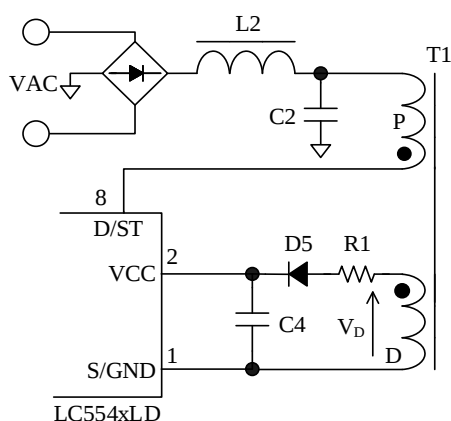

Figure 8-1. VCC Pin Peripheral Circuit
Figure 8-1 shows the VCC pin peripheral circuit. The IC has the startup circuit connected to the D/ST pin. When the D/ST pin voltage reaches the Startup Circuit Operation Voltage, $V_{STARTUP} = 21\text{ V}$, the startup circuit starts to operate. During the startup process, the constant current, $I_{CC(STARTUP)} = -4.0\text{ mA}$, charges C4 connected to the VCC pin. When the VCC pin voltage increases to $V_{CC(ON)} = 15.1\text{ V}$, the IC starts to operate. After that, the startup circuit is automatically cut off to eliminate power dissipation by the startup circuit.
voltage and the circuit current, I_{CC} . When the VCC pin voltage reaches the Operation Start Voltage, $V_{CC(ON)} = 15.1\text{ V}$, the control circuit starts to operate, then the circuit current increases. When the VCC pin voltage decreases to $V_{CC(OFF)} = 9.4\text{ V}$, the control circuit operation is stopped by the undervoltage lockout (UVLO) circuit, and is put back to the state before startup. After the IC starts switching operation, the rectified auxiliary winding voltage is supplied to the VCC pin. The auxiliary winding voltage, V_D , is presented in Figure 8-1. In the variation range of the input and output specifications, the winding turns of the auxiliary winding, D, should be adjusted so that the VCC pin voltage falls within the range defined by Equation (2). The reference voltage across an auxiliary winding is about 20 V .